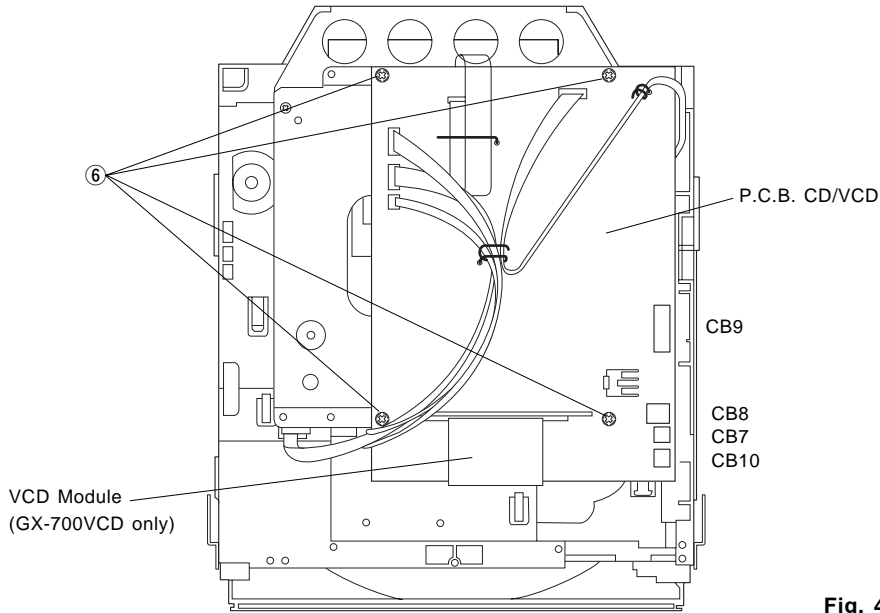
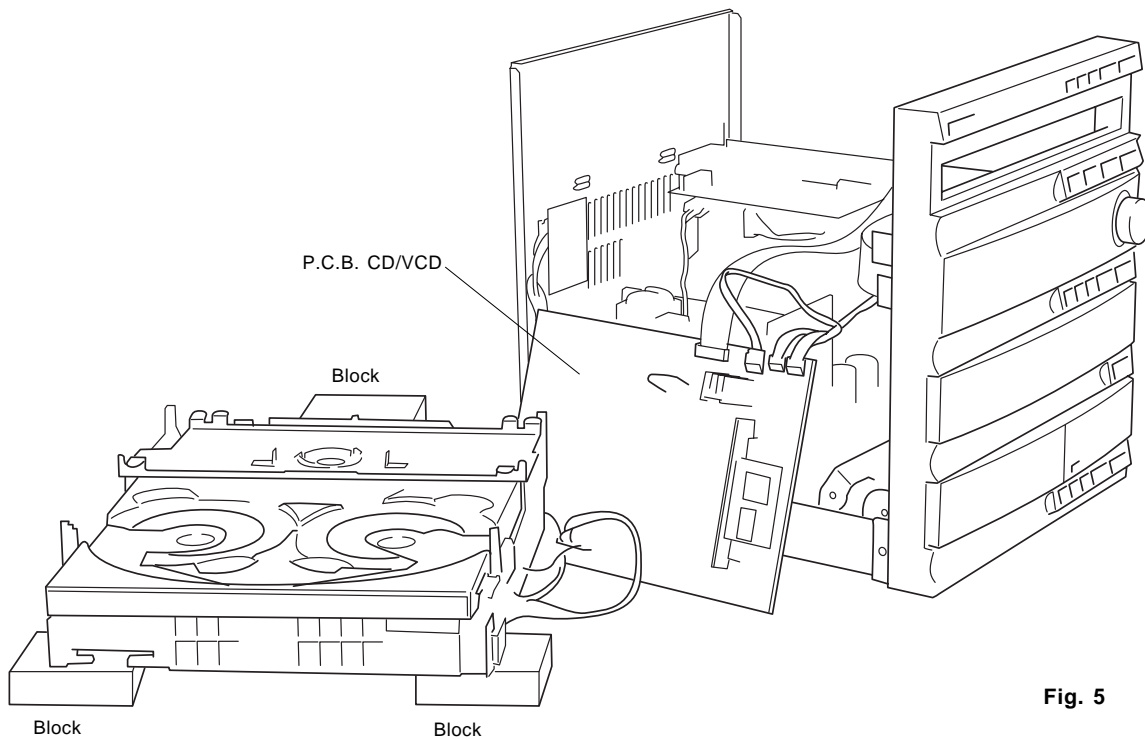

Fig. 4
Fig. 5
- b. Remove 4 screws (⑥) and then remove the P.C.B. CD/VCD in Fig. 4.
- c. Place blocks (at 3 locations) to hold the CD Mechanical Unit horizontally as shown in the Fig. 5.
- d. Connect the Flat Connecting Cable (CB9) and 3 connectors (CB8, CB7 and CB10) in Fig. 4 and Fig. 5.